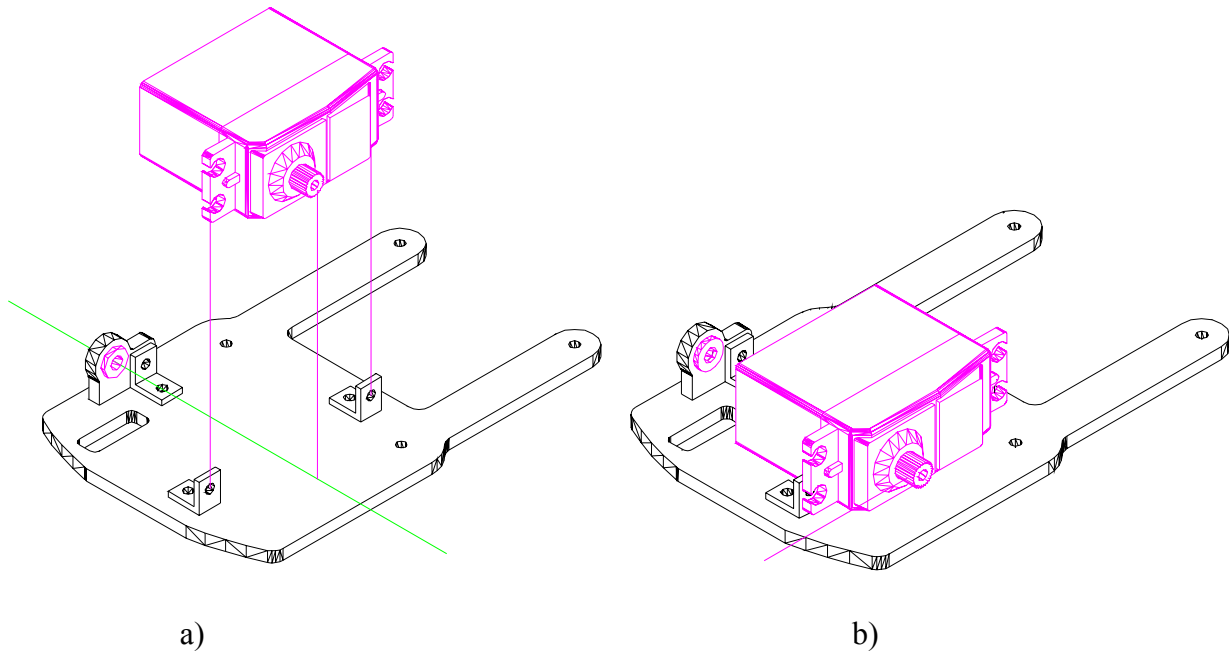

Figure 9 The shoulder servo fastens to the two angle brackets on the manipulator base plate a), resulting in the completed subassembly b).
4. Mount the shoulder servo onto the base as shown in Figure 9. Use two $\frac{1}{4}$ inch 4-40 machine screws to fasten the servo to the two angle brackets. Tighten the base plate screws into the angle brackets as well as the servo mounting screws. Make sure the angle brackets are square as you tighten the screws.